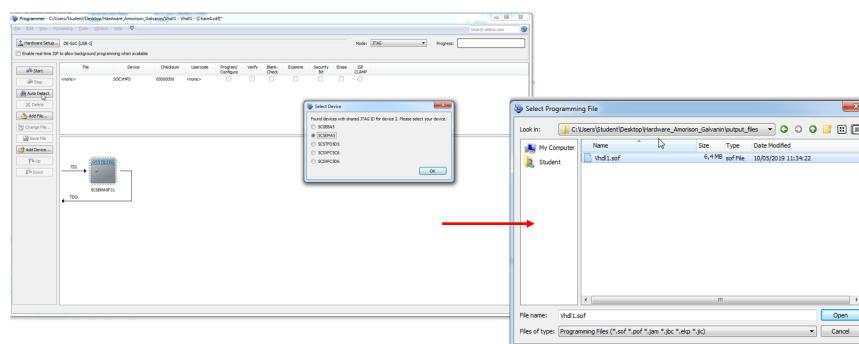

FIGURE 6.3 – Hardware selection
- Click on “Auto Detect” and choose the correct device (Figure 6.3) ;